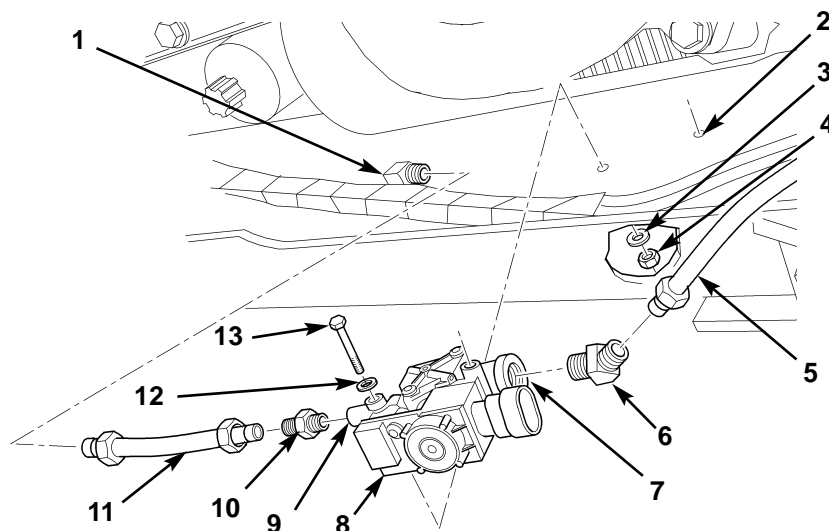

Figure 7. Installing Front Modulator.
1. Install elbow (figure 7, item 6) on front modulator inlet (figure 7, item 7), and install adapter (figure 7, item 10) on front modulator outlet (figure 7, item 9). Connect tube (figure 7, item 11) to adapter (figure 7, item 10).
2. Position front modulator (figure 7, item 8), connect tube (figure 7, item 11) to elbow (figure 7, item 1), and install front modulator (figure 7, item 8) on frame rail (figure 7, item 2) with two washers (figure 7, item 12), bolts (figure 7, item 13), washers (figure 7, item 3), and new locknuts (figure 7, item 4).
3. Connect tube (figure 7, item 5) to elbow (figure 7, item 6) on front modulator (figure 7, item 8).